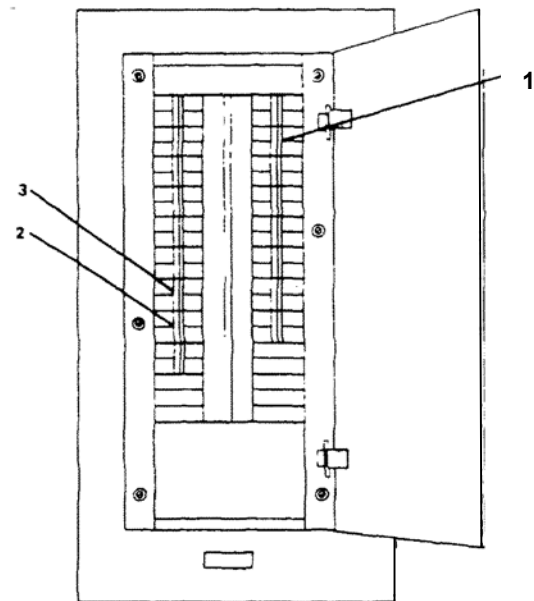

Figure 2-187. Engine Room Distribution Panel No. 4.
(c) Engine room distribution panel no. 4 (Figure 2-187). Set ENGINE ROOM DRINKING FOUNTAIN circuit breaker (3) to On position.